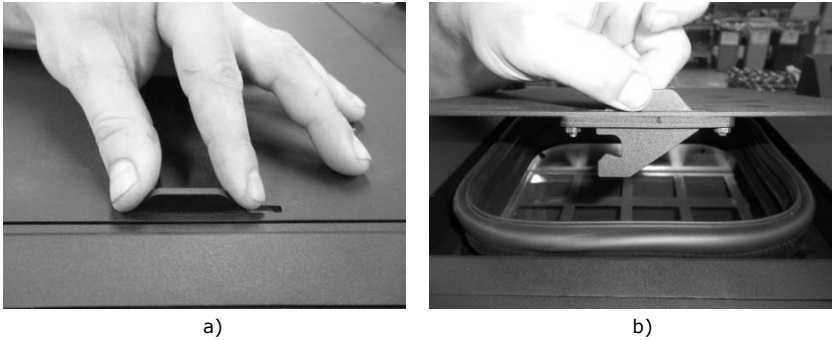

Figure 41 - Opening the lid
The pellet reservoir is opened by sliding the bolt sideways (Figure 41-a) and lifting the lid (Figure 41-b).
- 1 – Open the pellet reservoir lid at the top of the unit, as shown in Figure 41.
- 3 - Turn on the unit and close the lid, pressing it down as shown in Figure 41-a.